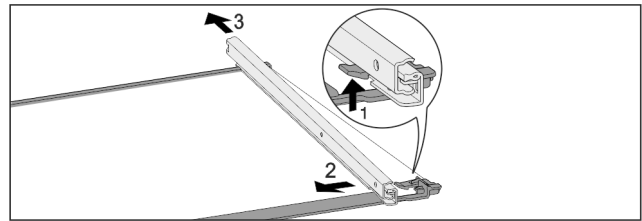

Fig. 52 Glass shelf with rails
- ▶ Push up front click-in hooks. Fig. 52 (1)
- ▶ Move the pull-out rails to the side Fig. 52 (2) and to the rear Fig. 52 (3).